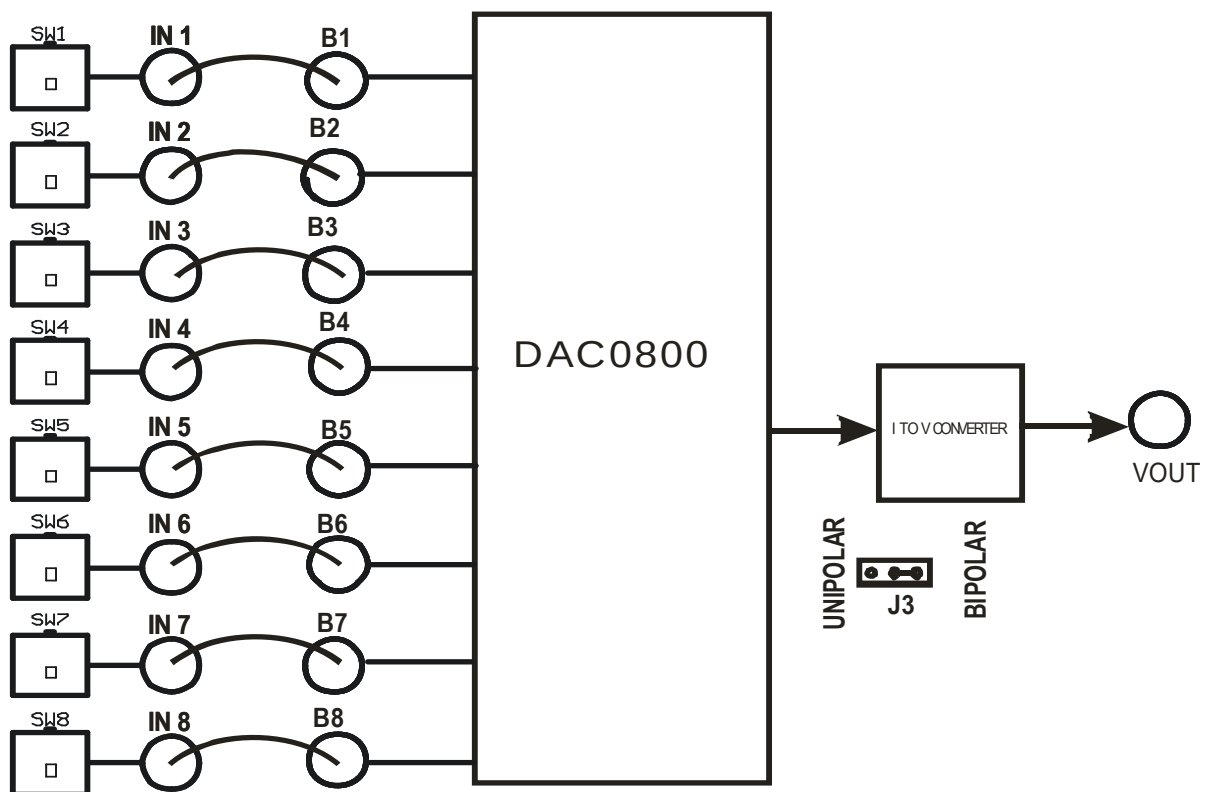

FIGURE-3.5
- 1) Connect the inputs(B1-B8) of 8 BIT MONOLITHIC DAC with the onboard input switches(SW1-SW8) and connect jumper J3 in bipolar mode as shown in FIGURE-3.5